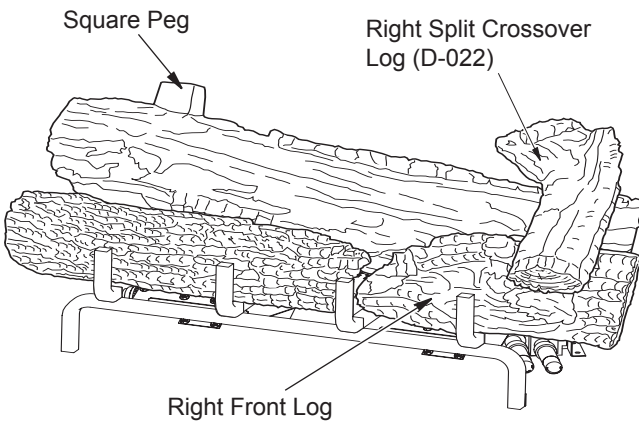

Figure 24 - Installing Right Split Crossover Log
6. Find the right split crossover log (D-022). The bottom of the log has a rectangular stand off that fits in the slots on the right side of the front right log and the middle split log. Place this log as shown in Figure 24.